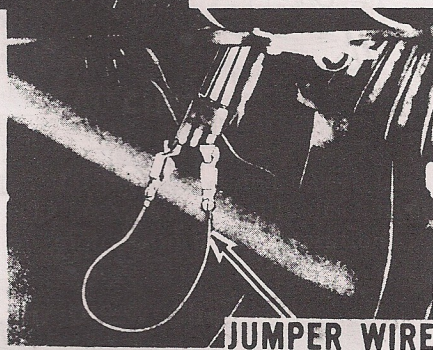

Figure 4—Jumper Wire For Switch Wiring
2. If there is power to the switch, connect a jumper wire between the black (feed) wire and the red wire, and then between the black and the yellow wire (Fig. 4). If the top motor operates, the switch is faulty and must be replaced.